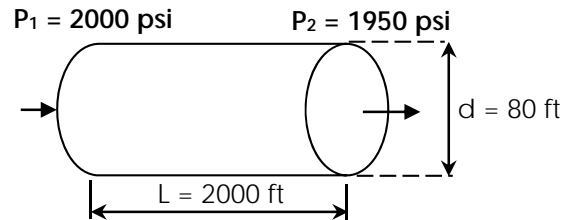

Figure 2
- a) An incompressible fluid flows in a linear porous medium (See **Figure 2**) with the following properties: $k = 100$ md, $\phi = 12\%$, and $\mu = 2$ cp.